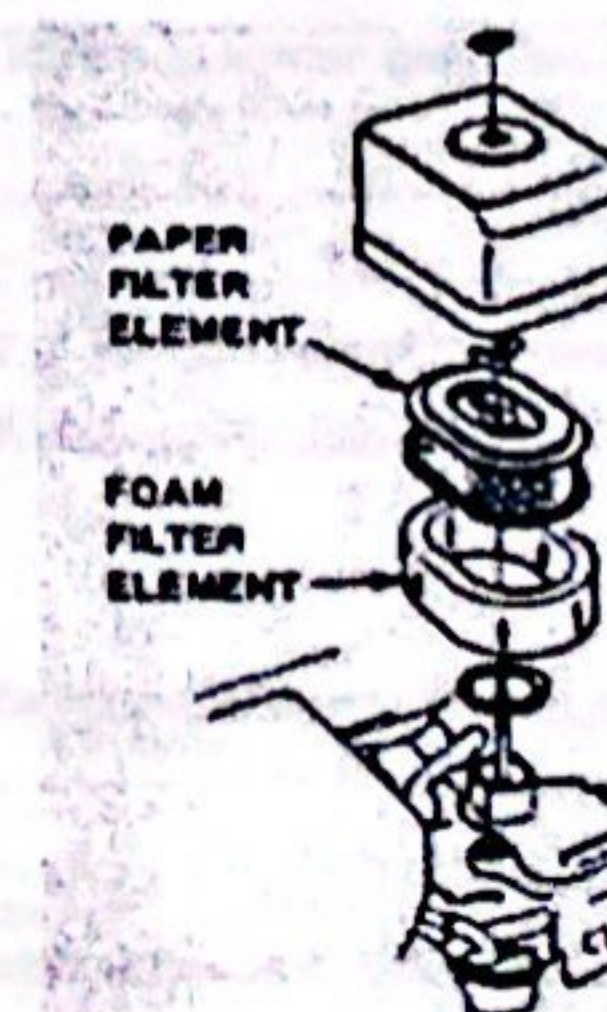

Figure 1 Air Filter
2. To clean or replace air filter loosen the wing nut on the air filter housing (Figure 1), remove the cover and take out air filter cartridge. If only cheaning of the air filter is desired blow through the air filter cartridge from the inside,moving a jet of dry compressed air up and down until all dust is removed.